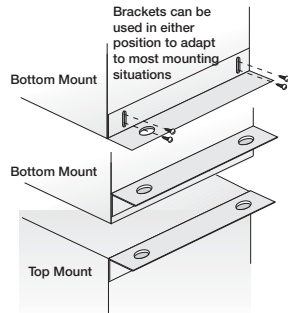

**Figure 7 — 45° Mounting Location**
7. These fans are not recommended for cooking exhaust applications. They are designed primarily for low temperature, clean air applications only. Figure 7 shows the minimum distance these fans should be placed in relation to cooking equipment.
1. For best performance, choose a location with the shortest possible duct run and minimum number of elbows. Do not mount intake grille near cooking equipment, as shown in Figure 7.